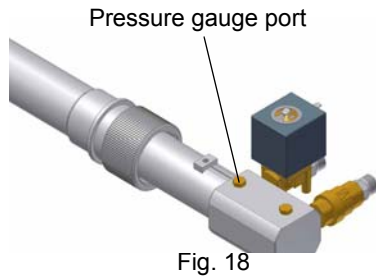

Fig. 18
- 9 the nozzle supply pressure is already factory-set and must not be changed. Only if necessary, adjust the supply pressure as follows (see related paragraph); insert a pressure gauge into the port shown on Fig. 18 and act on on the pump adjusting screw **VR** (see Fig. 17 and page 21) as to get the nozzle pressure at 20 bar or 25bar (according to the nozzle model provided: Bergonzo or Fluidics nozzles - see page 32-33).